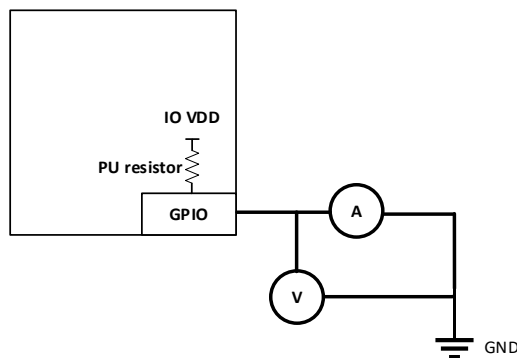

Figure 6-2 I/O Pull up resistor test
- (1) Configure the GPIO to be tested as input mode.
- (2) Configure the GPIO registers to be tested as 1 for `gpio@_pu` and 0 for `gpio@_pd`.
- (3) For GPIOs with multiple pull-up resistance values, it is necessary to change the configuration of the register `gpio@_pupdc` and test them separately.
- (4) When the ammeter is not connected, measure the voltage of the GPIO pin to be tested, and the voltage value is V_1 .
- (5) According to Figure 6-2, only connect the ammeter to test. At this time, the current value is I_1 , and the pull-up resistor is $R_{pu}=V_1/I_1$.